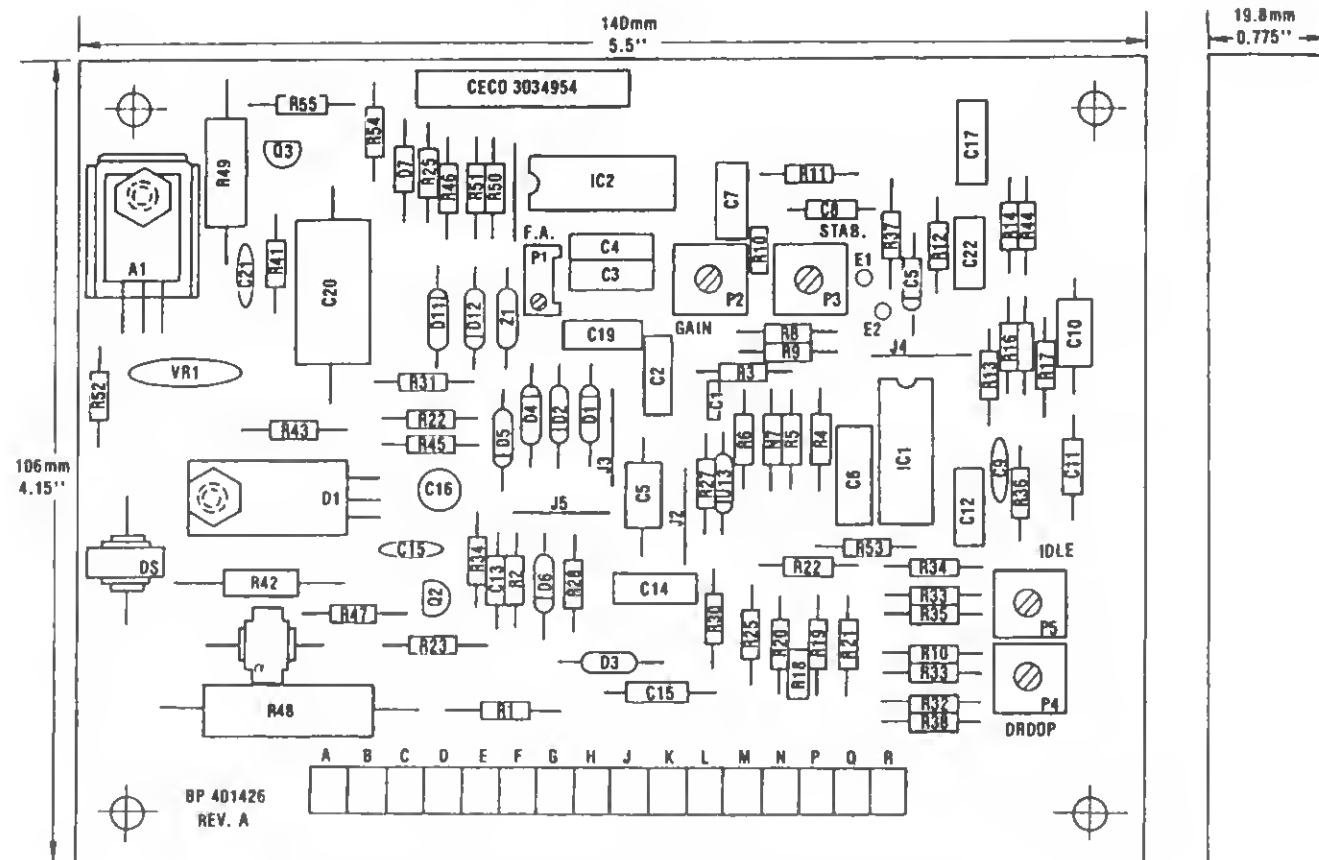

Figure 1. ECD 67-7000 speed control unit dimensions
- Dimensions ..... See Figure 1